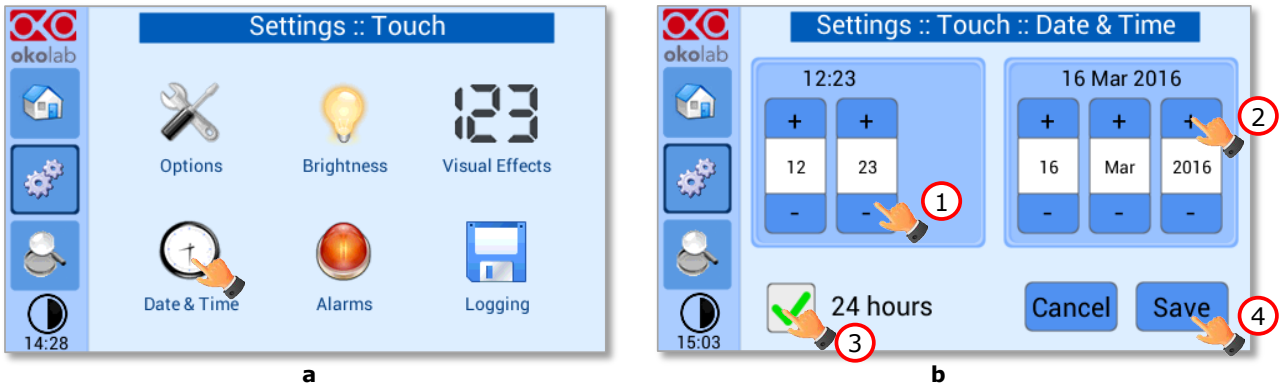

Figure 63. Touch screen settings. Date and Time (a - b).
1. Press the *Date & Time* icon (see Figure 63 a).
2. Set the values by using the +/- icons (1 and 2 in Figure 63 b).
Tip ► Flag the 24 hours box, if you want to use the hour format based on 24 hours (3 in Figure 63 b).
3. Click on *Save* to confirm (4 in Figure 63 b) or *Cancel* to undo.